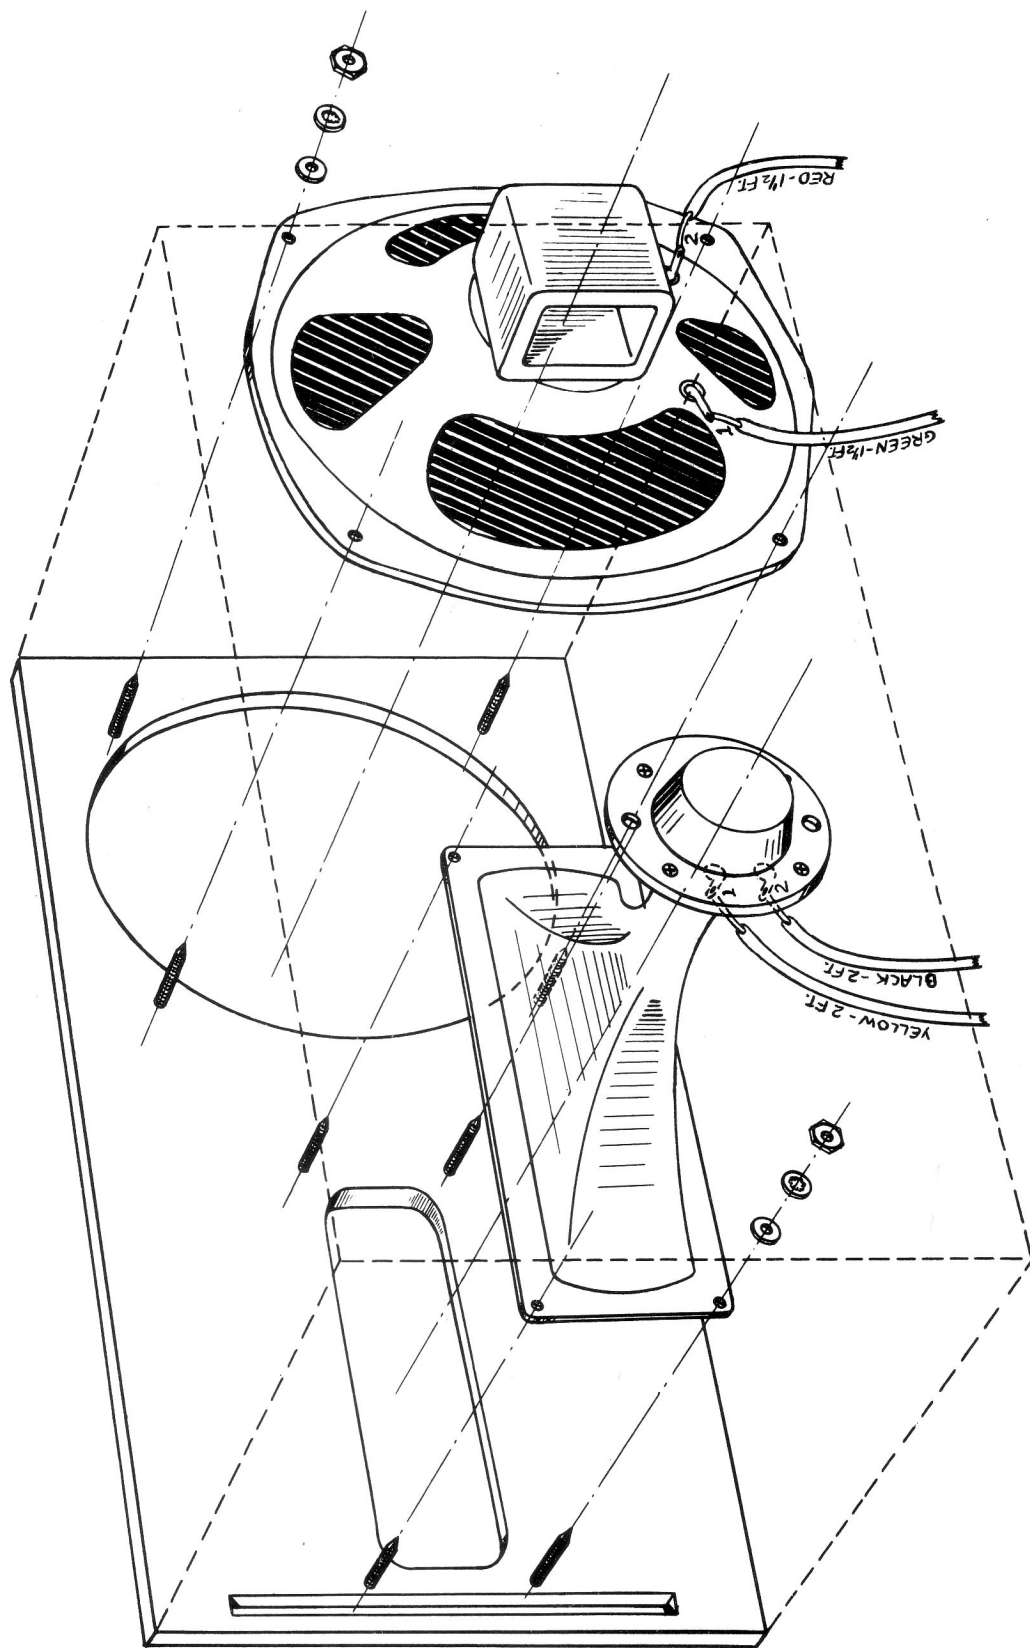

Fig. 1
1. () Fig. 1. Orient the speakers as shown in Fig. 1 to properly identify the terminals by the numbers shown in the drawing. Connect and solder each of the four pre-cut leads to the appropriate speaker terminal, carefully observing the color of lead which is to be attached to each terminal as follows: a) green lead to cone speaker terminal 1; b) red lead to cone speaker terminal 2; c) yellow lead to horn speaker terminal 1; d) black lead to horn speaker terminal 2. Do not disregard the color-coding or serious error will result in the final wiring.
2. () Fig. 1. Carefully center the cone speaker over the circular cut-out, orienting it so that the mounting holes are directly over the four projecting studs and the terminals are located as in the drawing. Gently lower the speaker so that the studs pass through the mounting holes. Careless handling here can
3. () Fig. 1. Mount the horn speaker on the six studs around the rectangular cut-out, orienting the terminals as shown. Fasten the speaker in place with six large flatwashers, six large lockwashers, and six large hex nuts as described above.